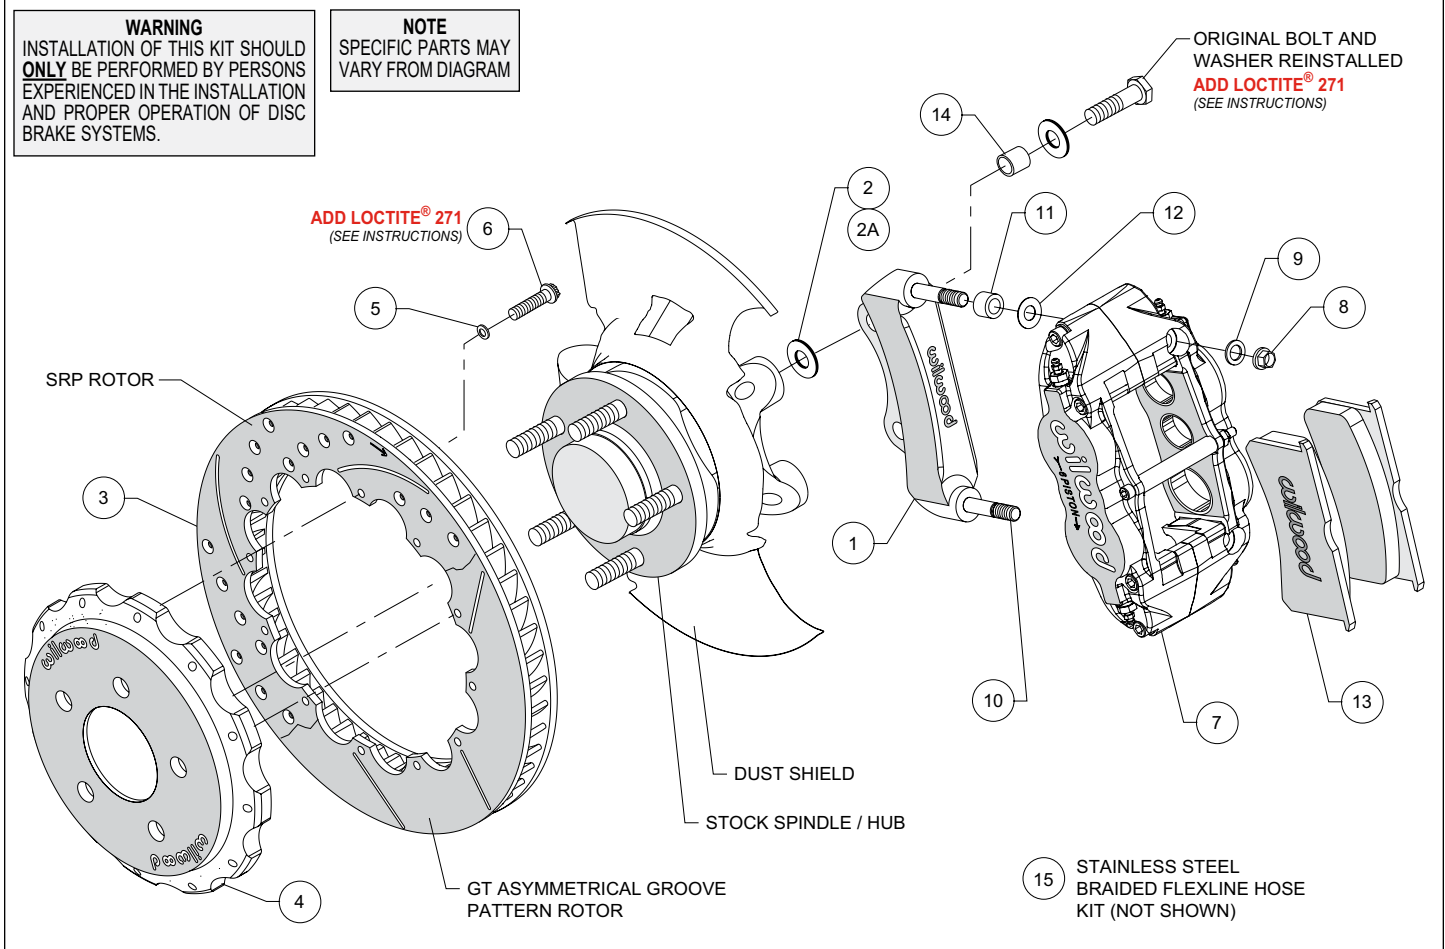
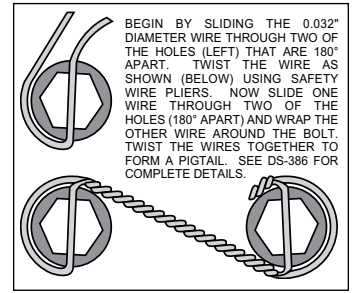

Figure 1. Typical Installation Configuration
Figure 3. Safety Wire Diagram
Assembly Instructions (numbers in parenthesis refer to the parts list/diagram on the preceding page, and Figure 1):
- The caliper mounting bracket assembly (1) should be installed first with clean, dry threads on the mounting bolts. Install the bracket from the rear side of the spindle by sliding the original stock bolts through washer, sleeve (14) (sleeve only utilized on 2004 model year), and bracket (1). Place shim washer (2 or 2A for 2004 model year) between the bracket (1) and the spindle (see Figure 1). The bracket must tighten squarely against the side of the spindle body. Inspect for interference from casting irregularities, machining ridges, burrs, etc. Use one thin shim (2 or 2A) between the bracket (1) and spindle during initial trial fitting.
- Orient the rotor (3) and the hat (4) as shown in Figure 1 and Photo 1. Attach rotor to hat using bolts (6) and washers (5). Apply red *Loctite*® 271 to the bolt threads and torque to 155 in-lb using a criss-cross pattern. For an added measure of security, the bolts may be safety wired using standard 0.032 inch diameter stainless steel safety wire as shown in Figure 3. Please refer to Wilwood's data sheet DS-386 (available at www.wilwood.com/Pdf/DataSheets/ds386.pdf) for complete safety wire installation instructions.
- **NOTE:** *This kit contains distinct right and left hand calipers that must be mounted in a specific direction, as described below.* Initially place one .035" thick shim (12) and one spacer (11) on each stud (10) as shown in Figure 1, and Photo 2. Mount the caliper (7) onto the bracket (1) using lock nuts (8) and washers (9), Figure 1. Ensure that the caliper is mounted so that the largest pistons are at the rotor exit end of the caliper, in relation to the direction of rotor rotation. Temporarily tighten the lock nuts and view the rotor through the top opening of the caliper. The rotor should be centered in the caliper, Photo 3. If not, adjust by adding or subtracting shims (2 and/or 2A) between the bracket and the upright. Always use the same amount of shims on each of the two mounting bolts. Once the caliper alignment is correct, remove the bracket mounting bolts one at a time, apply red *Loctite*® 271 to the threads, and torque to manufacturer's specifications.